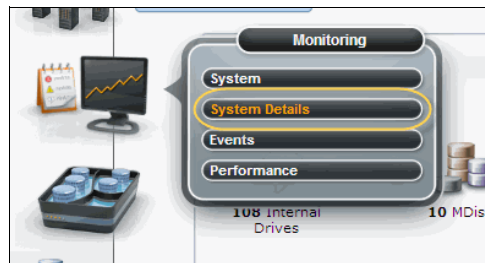

Figure 9-66 Power down via system details
1. Point to the Monitoring function icon (as shown in Figure 9-66) and click **System Details**.